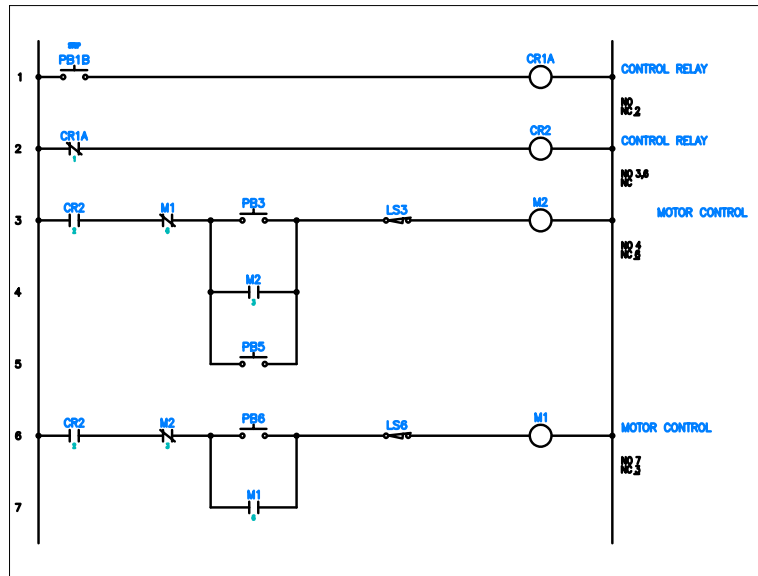

Figure 6-54 The trimmed wires and the aligned components
7. Repeat Step 1 and then select PB3 from rung 3; you are prompted to select objects. Next, select M2 placed on rung 4, PB5, PB6, and M1 placed on rung 7 from the drawing and then press ENTER; the selected components are aligned. Figure 6-54 shows the aligned components.